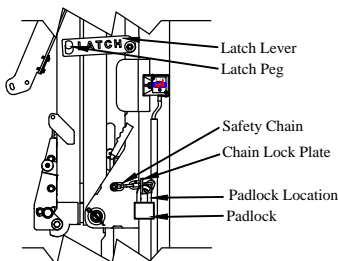

Figure 5: Step 5.
- Step 5. Unlock and remove the Padlock. Move the Safety Chain from the Chain Lock Plate. Put the Padlock in the same location it was removed from (Figure 5).